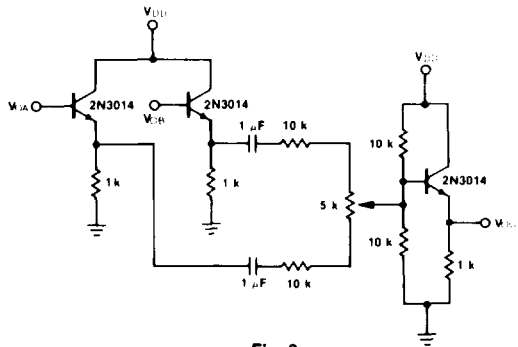

Fig. 8
**CCD321A-1 AC CHARACTERISTICS:**  $T_A = 55^\circ\text{C}$ . Both registers in the multiplexed mode. Clock Rate = 7.16 MHz. Sampling Rate = 14.32 MHz.  $V_{OUT} = 700\text{ mV}$ . See Test Load Configuration, Figure 8
**CCD321A-2/B-2 AC CHARACTERISTICS:**  $T_A = 55^\circ\text{C}$ . Both registers in the multiplexed mode. Clock Rate = 7.16 MHz. Sampling Rate = 14.32 MHz.  $V_{OUT} = 700\text{ mV}$ . See Test Load Configuration, Figure 8
**CCD321A-3/B-3 AC CHARACTERISTICS:**  $T_A = 55^\circ\text{C}$ . Both registers in the multiplexed mode. Clock Rate = 7.16 MHz. Sampling Rate = 14.32 MHz. Clocks are stopped for 300  $\mu\text{s}$ .  $V_{OUT} = 700\text{ mV}$  after 4.2 MHz low pass filter. See Test Load Configuration, Figure 8
**CCD321A-4/B-4 AC CHARACTERISTICS:**  $T_A = 45^\circ\text{C}$ . Both registers in the multiplexed mode, Clock Rate = 7.16 MHz, Sampling Rate = 14.32 MHz.  $V_{OUT} = 700\text{ mV}$ . (See Test Load Configuration, Figure 8)